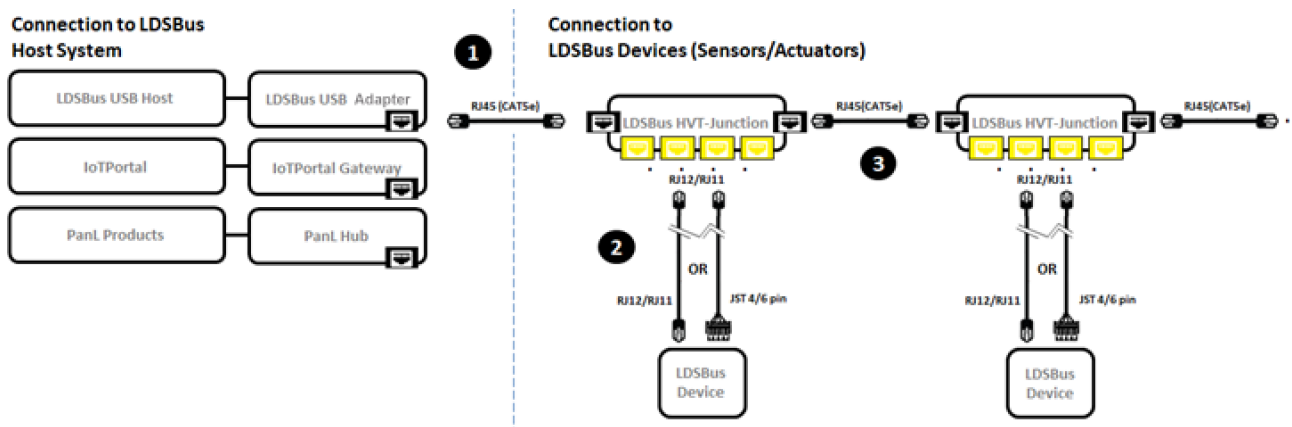

Figure 2 - LDSBus CO2 Sensor to LDSBus – Connection Diagram
Figure 2 illustrates the connection of the LDSBus CO2 Sensor (LDSBus Device) to the LDSBus. Please visit <https://brtsys.com/resources> to view the full device application, setup, and installation guides.
2. Connect the configured LDSBus CO2 Sensor to the LDSBus HVT-Junction as shown in Figure 2.
3. If there is more than one LDSBus HVT-Junction, chain them together as shown in Figure 2.